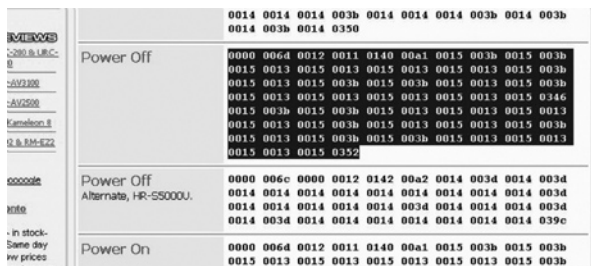

Figure 72 Highlighting and Copying Hex Code From Remote Central
- Drag across the entire Hex code data to highlight it and **copy** it to the Windows clipboard with **Ctrl C**. Refer to **Figure 72**.